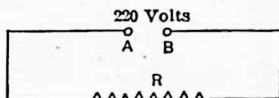

FIG. 6.
**Problem 11.** If  $R = 11$  ohms, Fig. 6, how many amperes are flowing in line? *20*